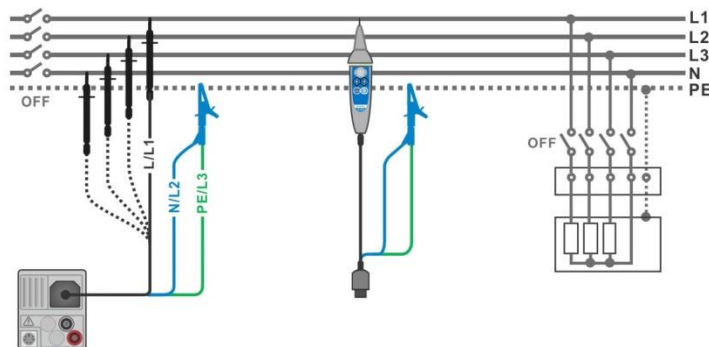
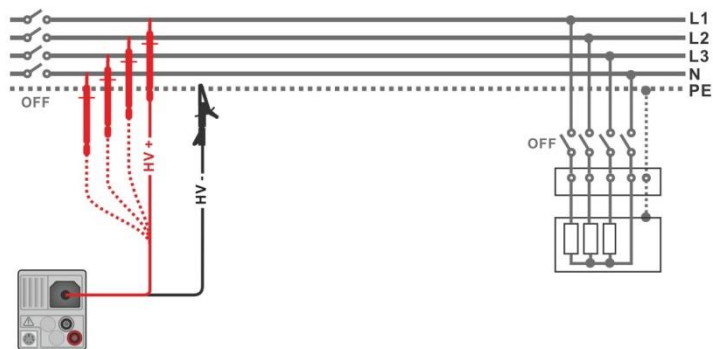

Figure 7.7: Connection of 3-wire test lead and Tip commander ($U_N \leq 1$ kV)
Figure 7.8: Connection of 2.5 kV test lead ($U_N = 2.5 \text{ kV}$)
- ▶ Connect test leads to object under test (see **Figure 7.7** and **Figure 7.8**).